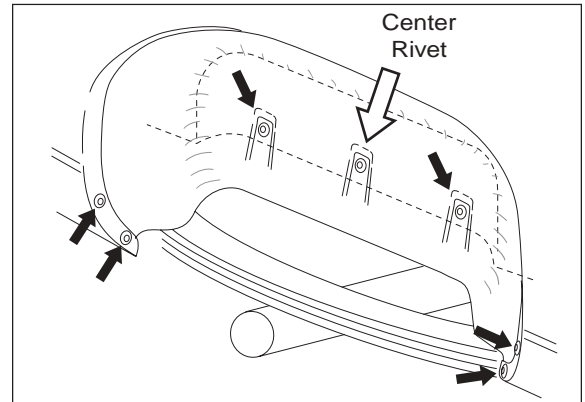
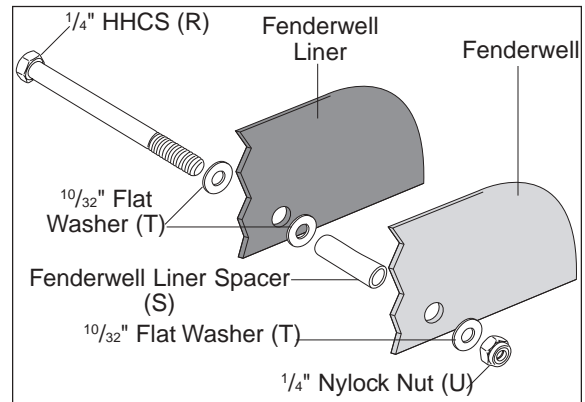

Figure 18
Figure 19
2. Place the spacer (S) between the fenderwell liner and the fenderwell at the center hole (Figure 18) in the fenderwell liner (the hole nearest the air spring). Attach using the $\frac{1}{4}$ " HHCS (R), the $\frac{10}{32}$ " flat washers (T), and $\frac{1}{4}$ " nylock nut (U) provided (Figure 19).